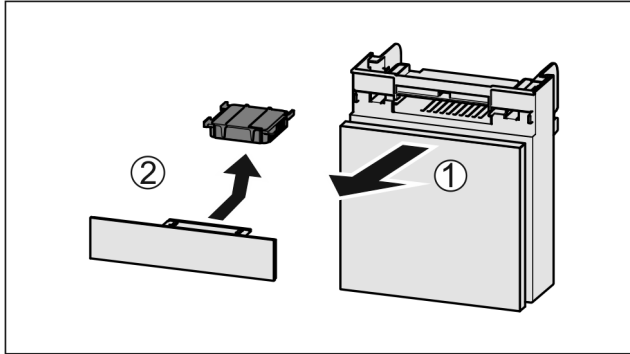

Fig. 136
- ▶ Pull out the compartment Fig. 136 (1).
- ▶ Remove the carbon filter Fig. 136 (2).